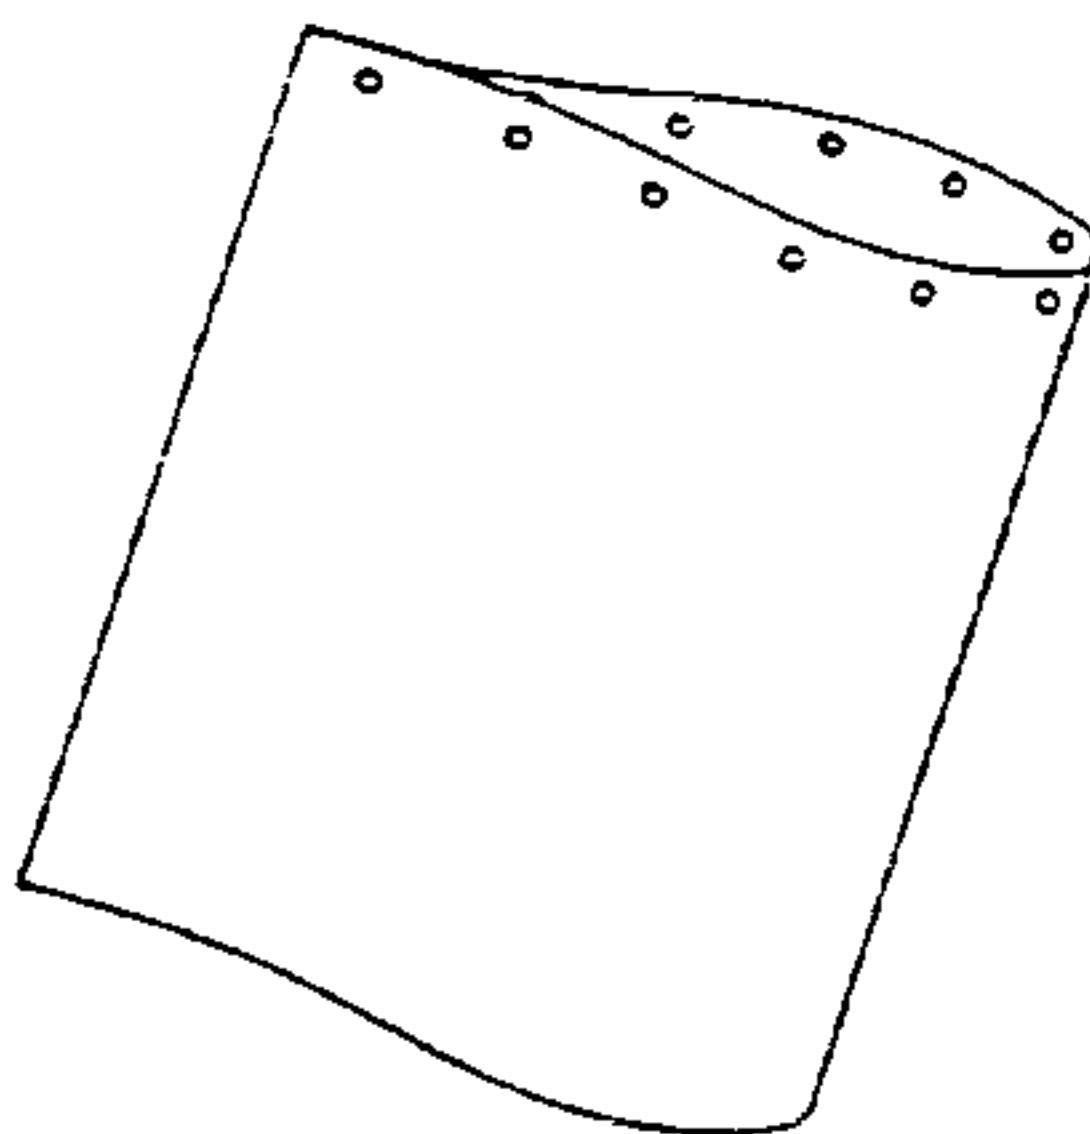

Figure 4-1
1. Adjust the punch edge guide to the correct paper length. Check the punch alignment by punching a sheet of paper and folding it in half along the punched edge (See Figure 4-1) Match the holes up, if the corners of the paper match with no overlap, the alignment is correct. If not, readjust the guide and repeat the process until the edges are square.